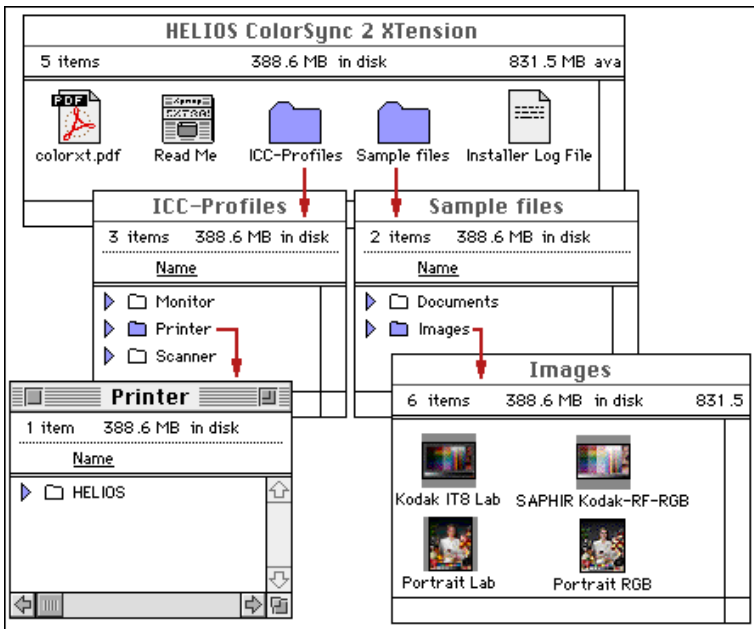

Fig. 8: Items we deliver in addition to ColorSync 2 XT and Apple ColorSync.
During a full-scale installation the installer creates the “HELIOS ColorSync 2 XTension” folder on your hard disk (or any other location you may have selected as “Install Location”). The contents of this folder is shown in figure 8. The “Installer Log File” reveals what the installer has done. It is meant for information purposes. The electronic documentation (“colorxt.pdf”), the “Read Me” file, and the “Sample files” folder can be kept where they are. The “ICC-Profiles” folder, however, should be re-organized (see the following paragraph).
- For better orientation you can create several subfolders within the profile repository (compare the “Printer” folder in figure 8).
Note: To find out which QuarkXPress folder the installer selected you may read the “Installer Log File”. Just double-click the respective icon in the folder “HELIOS ColorSync 2 XTension” that is shown in figure 8.